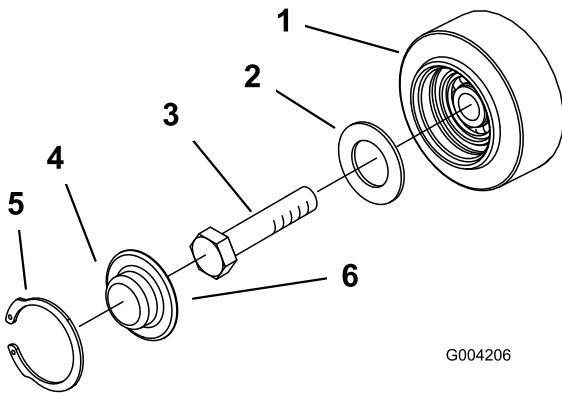

Figure 42
- 3. Remove the snap ring and cap from a road wheel (Figure 42).
- 4. Check the grease under the cap and around the gasket (Figure 42). If it is dirty, gritty, or depleted, clean out all of the grease, replace the gasket, and add new grease.
- 6. Place the greased road wheel cap over the bolt head (Figure 42).
- 7. Secure the road wheel cap with the snap ring (Figure 42).